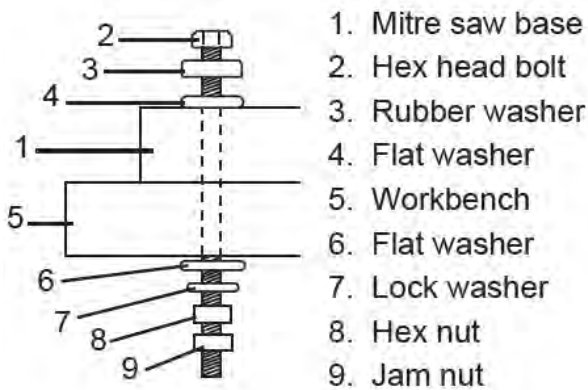

Fig. 15: Fixing the saw
Mounting instructions (Fig. 15, 16)
Step 2: The bottom of the saw (KGZ 2540) has eight mounting holes, four holes (Ø 6.4 mm) and four holes (Ø 9.5 mm). The bottom of the saw (KGZ 3050) has eight mounting holes, four holes (Ø 6.8 mm) and four holes (Ø 9.0 mm). Select the correct mounting holes based on the size of the screws used to screw the mitre saw base frame (1) to the workbench (5) as shown in Fig. 15 using the mounting method.